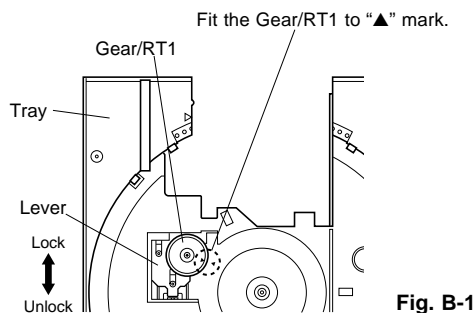

Fig. B-1
- Slide the Lever so that the Gear/RT1 becomes free. (Fig.B-1)
- With the "▲" mark on the Gear/RT1 aligned with the same mark on the Tray, lock it with the Lever. (Fig.B-1)